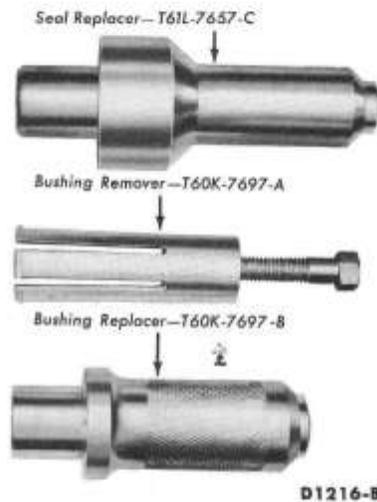

FIG. 2—Extension Housing Bushing and Seal Service Tools
3. Remove the bushing using tool shown in Fig. 2. Use caution when the bushing remover tool is installed so that the spline seal is not damaged.
4. When installing a new bushing, use the special tool shown in Fig. 2.